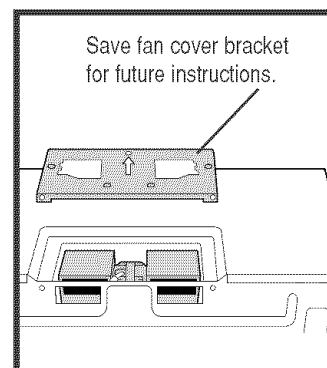

Figure 10
4. Put the wire back into the cavity. See Figure 10.